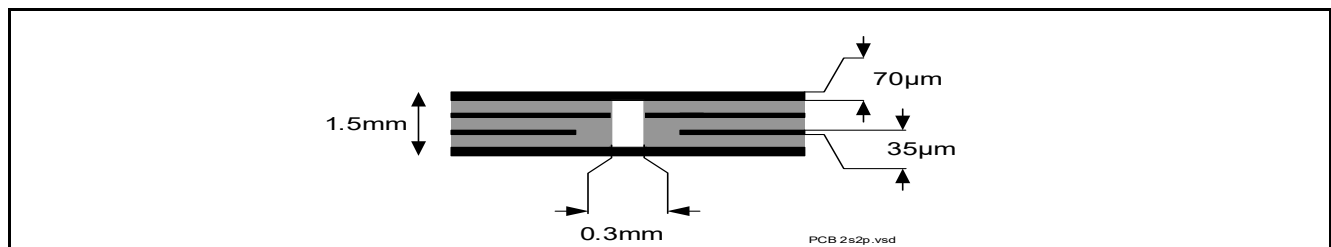

Figure 4 2s2p PCB Cross Section
- 2) Specified R_{thJA} value is according to JEDEC JESD51-2,-5,-7 at natural convection on FR4 2s2p board with 1 W total power dissipation at $T_A = 105^\circ\text{C}$; The product (chip + package) was simulated on a 76.4 x 114.3 x 1.5 mm board with 2 inner copper layers (2 x 70 μm Cu, 2 x 35 μm Cu). Where applicable, a thermal via array under the exposed pad contacts the first inner copper layer. Please refer to Figure 4.